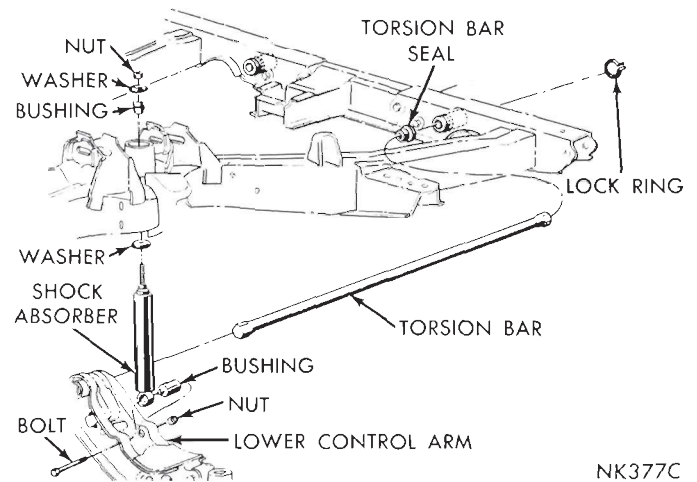
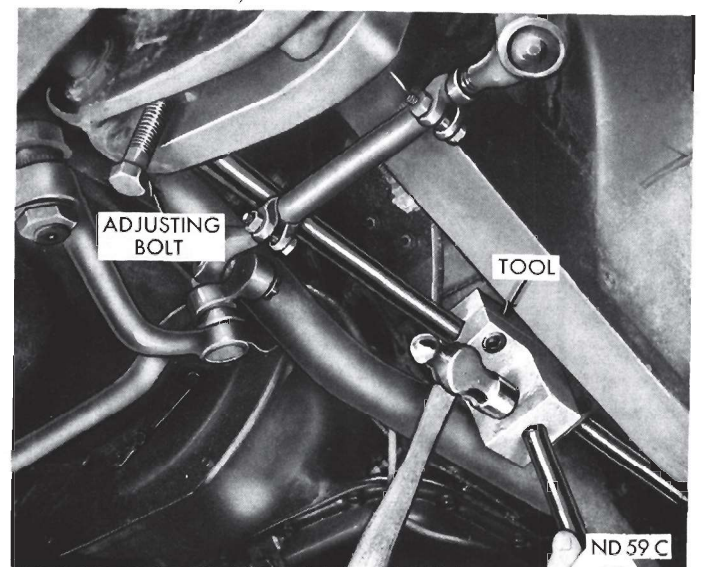

Fig. 4—Torsion Bar
Fig. 5—Removing Torsion Bar
- (1) Remove upper control arm rebound bumper.
- (2) If vehicle is to be raised on a hoist, make sure it is lifted on body only so that front suspension is in full rebound (under no load). If vehicle is to be raised on jacks, placed under center of crossmember **it will be necessary that, a support first be placed between the crossmember and the jack.**
- (3) Release all load from torsion bar (Fig. 4) by turning anchor adjusting bolt (Fig. 5) counterclockwise.
- (4) Remove lock ring from torsion bar rear anchor (Fig. 4).
- (5) Using Tool C-3728, remove torsion bar (Fig. 5) from its anchors. It is advisable to place Tool C-3728 toward rear of torsion bar to allow sufficient room for striking the striking pad of tool. **Do not apply heat to torsion bar, front anchor or rear anchor.**
- (6) Remove tool and slide rear anchor balloon seal from anchor to facilitate removal of torsion bar.
- (7) Remove torsion bar by sliding bar out through